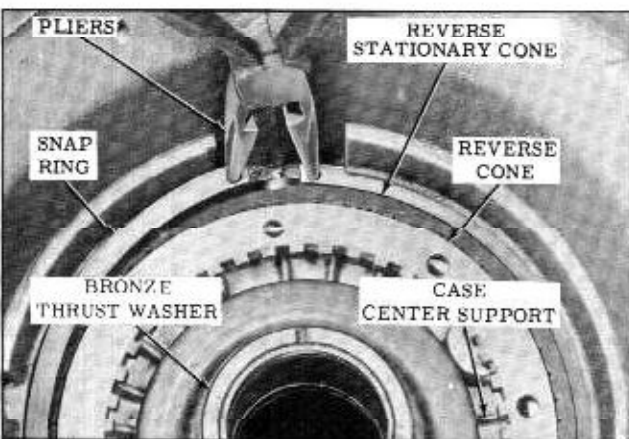

Fig. 3-53 Case Center Support Thrust Washer
53. Remove the front internal gear to case center support bronze thrust washer. (Fig. 3-53)